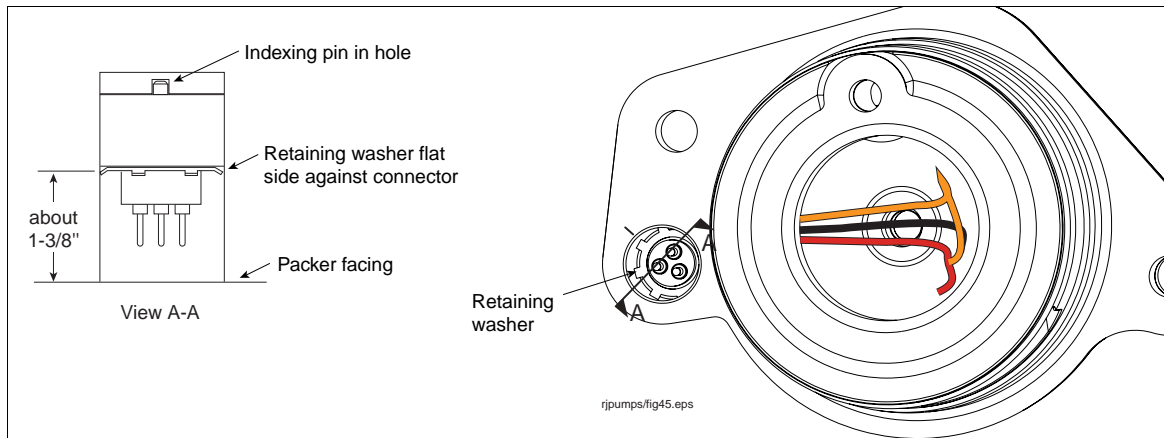

Figure 42. Correct depth of male connector in packer socket
11. Thread the wires of the new male connector down into the socket and out through the opening in the base of the socket into the packer wiring compartment. Gently pull the wires into the wiring compartment as you align the masking tape mark on the connector with the felt tip mark on the packer facing. When you have pushed the connector all the way into its socket it should not rotate if the indexing pin is in the index hole. Using the small ruler, measure the distance from the packer facing down to the connector, it should be a little more than 1-3/8" (see Figure 42). Hold the wires tight to keep the connector in position and insert the retaining washer (with upturned teeth facing out) forcing it down until it is firmly against the connector. Recheck the 1-3/8" measurement after installing the retaining washer to confirm that the connector is at the proper depth.